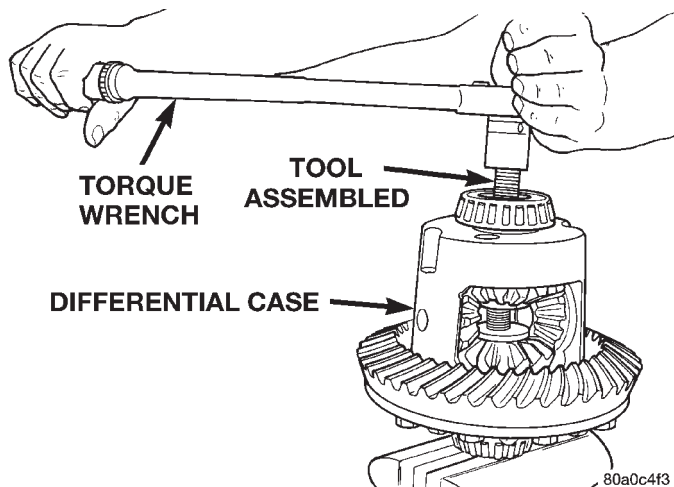

Fig. 45 Tighten Belleville Spring Compressor Tool
(9) Tighten forcing screw tool 122 N·m (90 ft. lbs.) maximum to compress Belleville springs in clutch packs (Fig. 45).